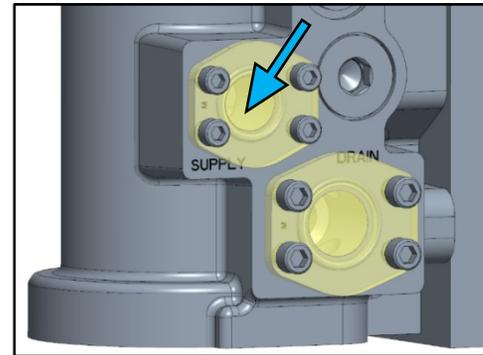
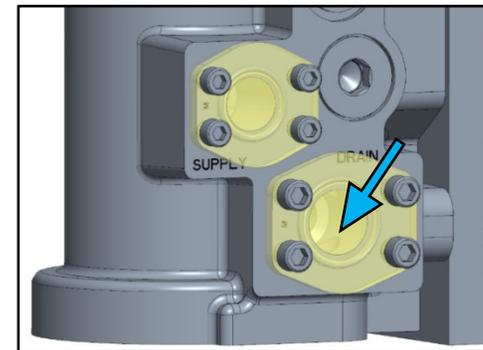

Figure 2-32. VariStroke with Supply Piping Disconnected and Plugged Port
Figure 2-33. VariStroke with Drain Piping Disconnected and Plugged Port
58. Ensure that withdrawn VariStroke's ports are secured with plugs to avoid internal cavity contamination (Figure 2-32 and Figure 2-33).